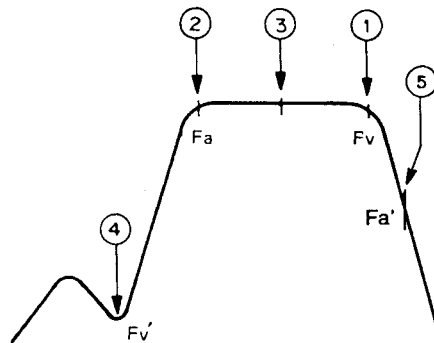

Fig. 9
2. Adjust L602, L603, L605 and L606 by the following procedure, and set the waveform at the OUTPUT terminal of the converter as shown in Fig. 9.
- a) Adjust L606 for the proper gain at ① (23 to 30dB).
- b) Adjust L605 so that ② has the same level as ①.
- c) Readjust L605 and L606 to make ③ level (from Fv-4.5MHz) to within 1dB.
- d) Adjust L603 so that ⑤ is less than -8dB.
- e) Adjust L602 so that ④ is less than -14dB.
1. Confirm that the output waveform remains the same (Fig. 9) after completing the 2nd Local OSC Adjustment. If it varies from the specifications, remove the front cover and again perform "4. Output Wave Adjustment".